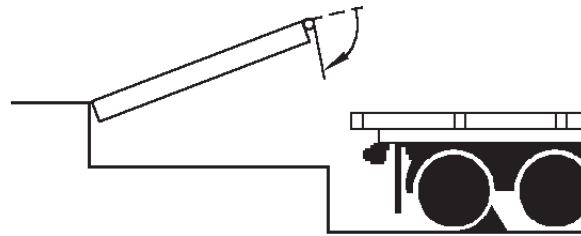

Figure 18
6. When loading or unloading is finished, raise the platform by pressing and holding the RAISE button until the lip folds enough to land in the lip keepers, then release the RAISE button. The platform will return to the cross-traffic position. See Figure 18.